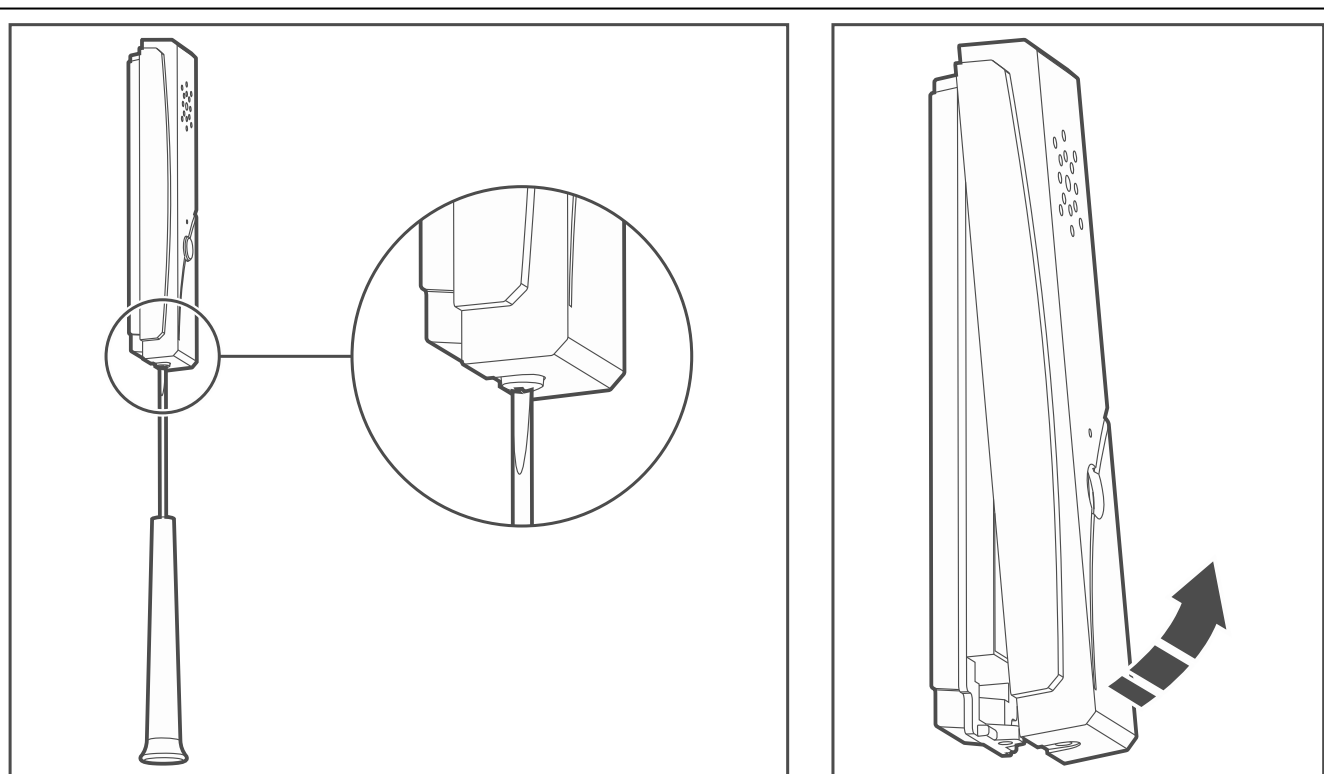

Fig. 24. Opening the INT-AVT terminal enclosure.
1. Remove the screw, lift the enclosure cover and detach it (see Fig. 24). The cover will still be connected to the base by the speaker wires.